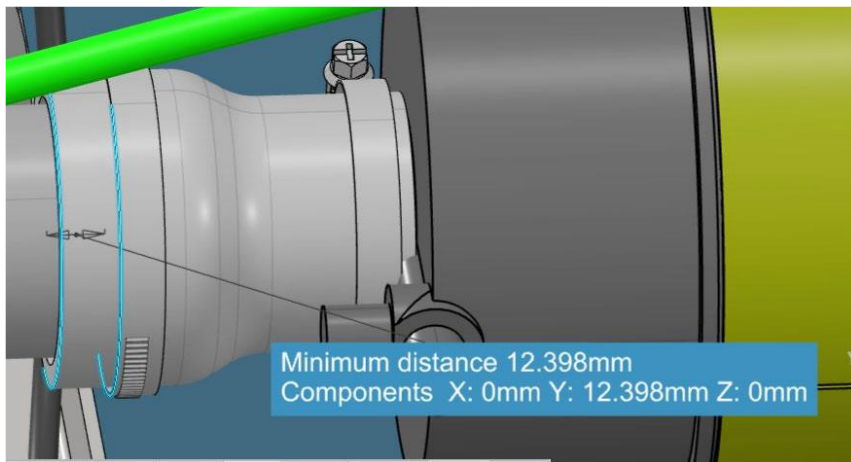

Figure 17: Air Compressor Coupler Clamp to Line
29. Ensure that other clamp is positioned no more than 12.4 mm from the edge of the clamp as shown in Figure 17. Torque to $6\pm 1\text{Nm}$.